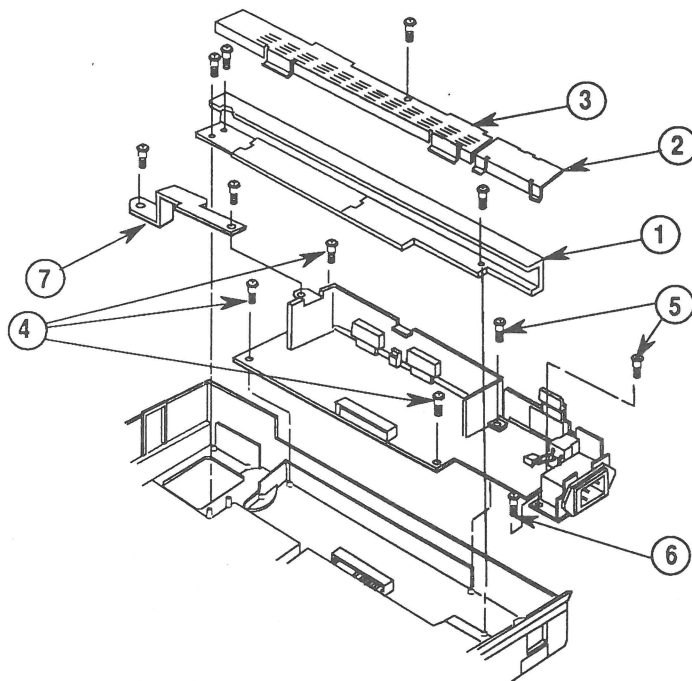

FIGURE 29
3. Remove the left-side guide rail (Figure 29, #1) by removing the three screws. When the rail is removed, the black plastic inside housing cover will come with it (see Figure 29, #2).
4. Unscrew the one screw from the black shield plate (Figure 29, #3), and remove the plate by sliding it to the right side and then up.
6. Remove the three self-tapping screws (Figure 29, #4) and the two machine screws (Figure 29, #5) that hold the power supply board to the housing. Remove the ground wire screw (Figure 29, #6).
7. Remove the ground strap bracket (Figure 29, #7) and remove the board.